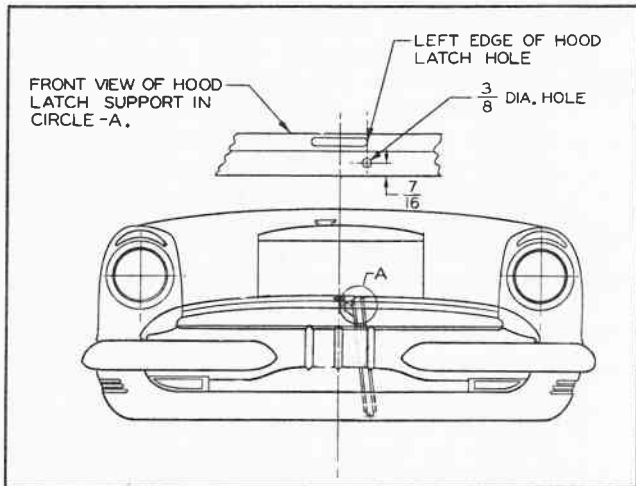

Fig. 3 Installation of #521090 Brace Assembly
In all cases of excess movement of the front of hood first check to be sure that second type hood latch striker and fender support brace assembly (521090) has been installed. All second type braces have a screw installed in the  $\frac{3}{8}$ " hole shown in Fig. 3. If the second type brace is not installed, install as outlined in steps 1 through 5 below before proceeding. If this brace is installed, proceed from step 5 and complete balance of procedure.
3. Drill a  $\frac{3}{8}$ " hole in the Hood Latch Striker and Fender Support from the front of the car as shown in Fig. 3. Punch hole for drill  $\frac{7}{16}$ " up from lower edge of Hood Latch Striker and Fender Support and in line with left edge of hood latch hole and on top of the support.